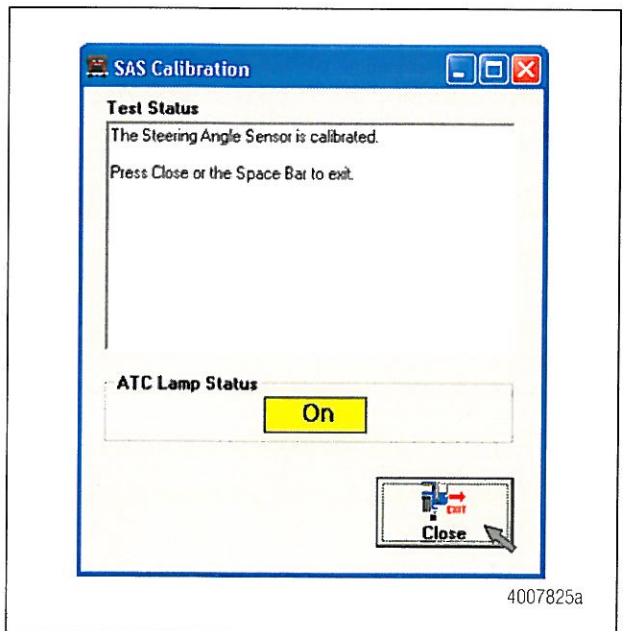

Figure 15
8. The message box will indicate when the SAS has been calibrated. Once the SAS is calibrated, press Close or the space bar to continue. The ESC initialization procedure can now be performed. Figure 15.